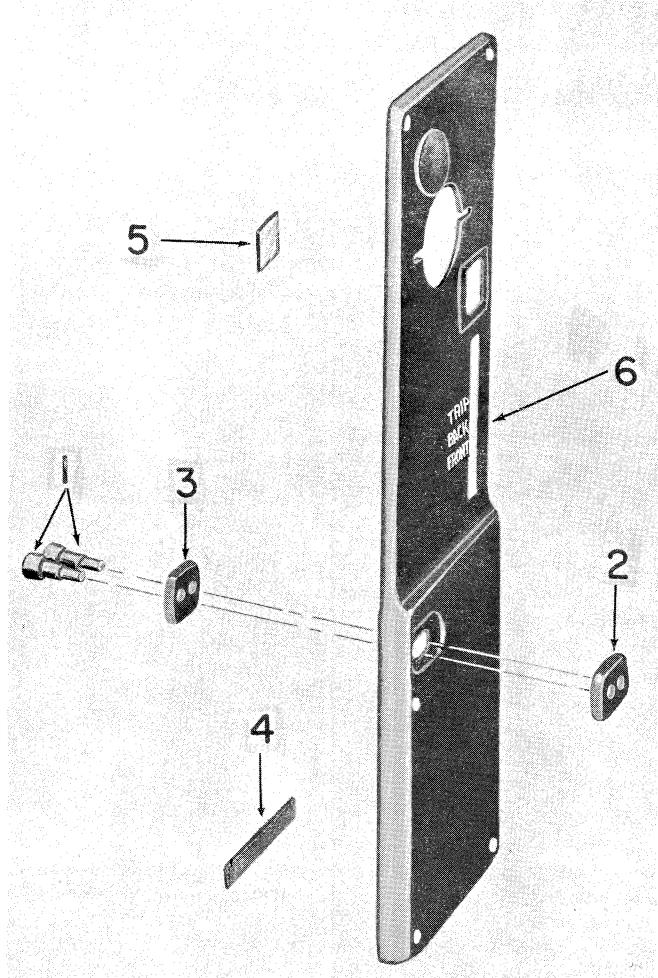
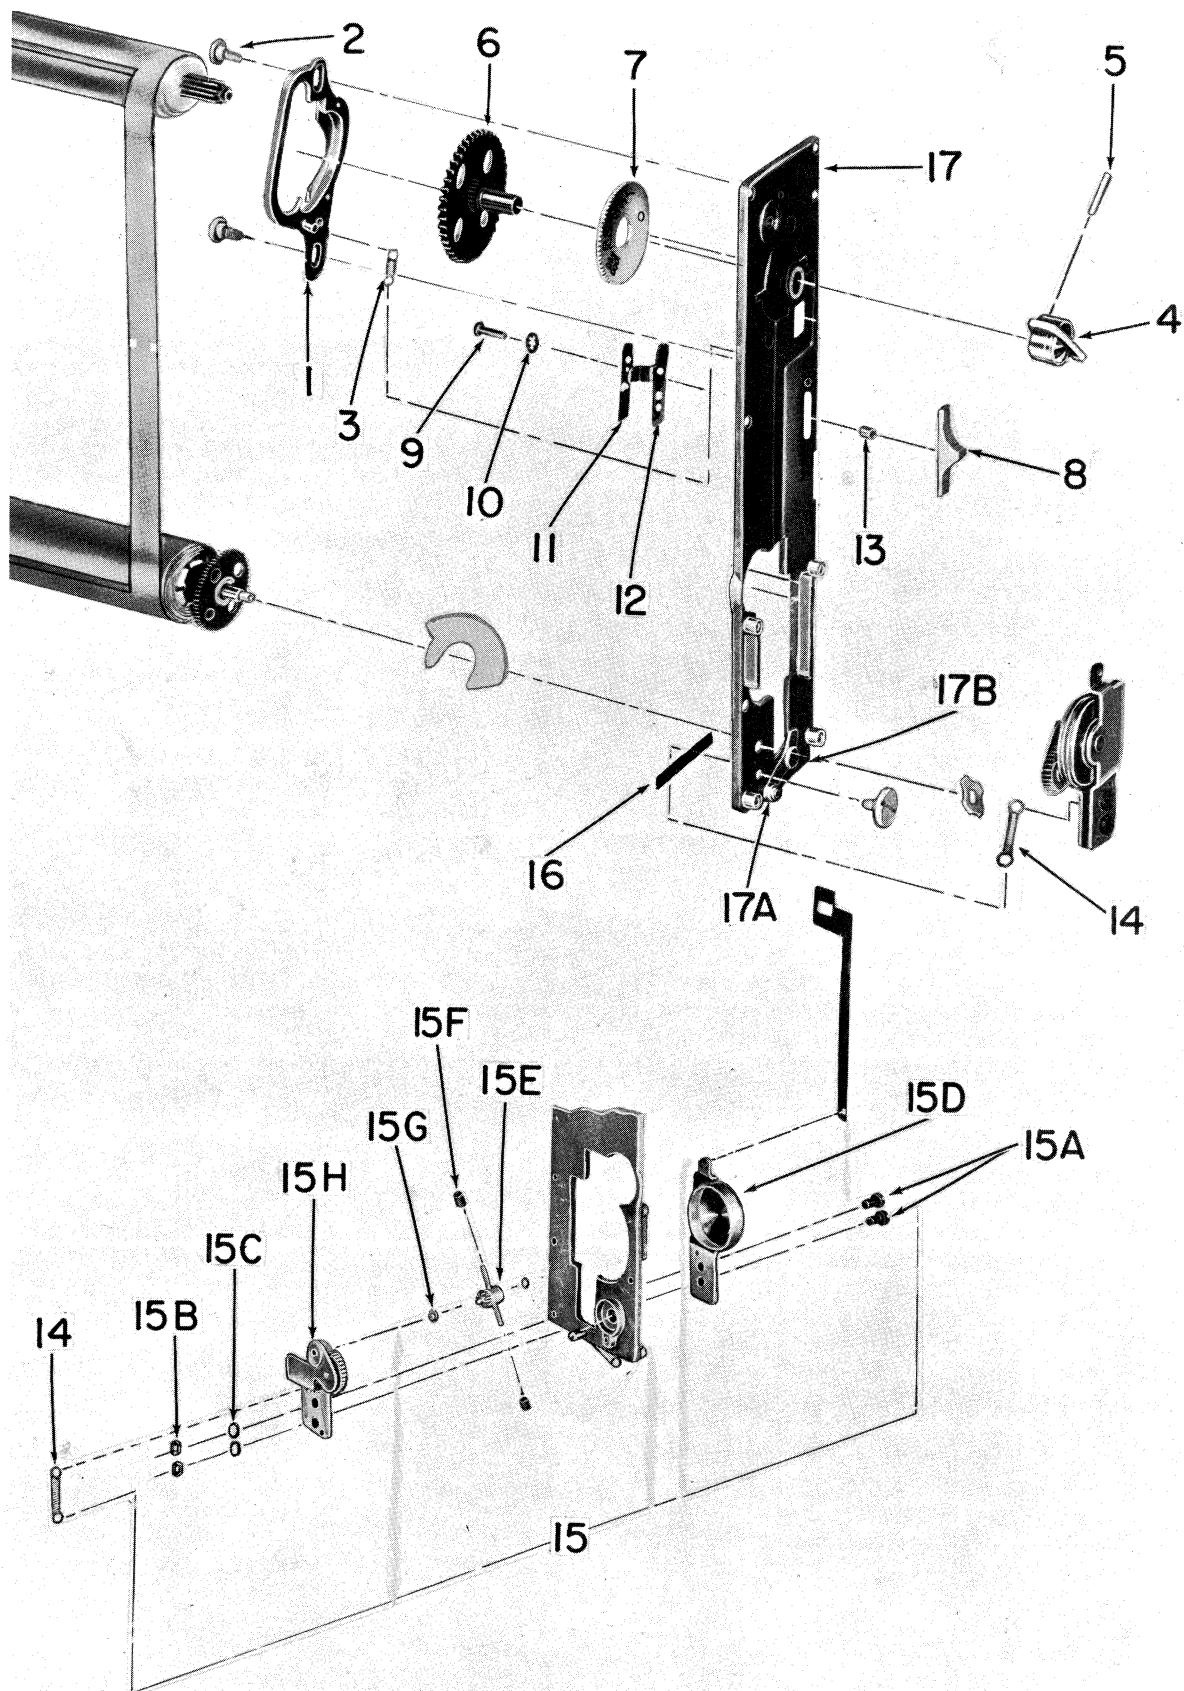

Figure 5. Shutter Plate Cover Assembly,
Figure 6. Shutter Mechanism Plate Assembly, Exploded View
tension shaft retainer (6). Swing the retard cam lever assembly (17A, figure 6) forward to raise the governor. Remove four wood screws (8, figure 2) and lift the shutter mechanism plate assembly (4) from the camera.
- (1) Escapement, Master Gear, Winding Key. The escapement (1, figure 6) is secured by two escapement screws (2). Remove and unhook the escapement spring (3). Remove the taper pin (5), the winding key assembly (4) and then the master gear assembly (6) from the inside. Lift the shutter dial (7) from the inside.
- (2) Shift Slide (8). To remove, unscrew the machine screw (9) and lock washer (10). Lift off the shift slide spring (11) and the shift side plate (12) and the shift slide spacer (13).
**Note:** Do not remove governor assembly (15) from the plate unless necessary.
- (3) Governor. Disconnect the governor spring (14). Remove two hexagonal machine screw nuts (15B), two lock washers (15C) and two dowel studs (15A). Lift the top bracket assembly (15D) from the governor pinion assembly (15E) and take particular care to note the washers (15G) that may or may not be used. Remove the governor shoes (15F) from the pinion assembly. The bottom bracket assembly (15H) can now be removed from the plate.
- (4) Lever Assembly. If the retard cam lever assembly (17A) has become bent or damaged, drill out the brass stud (17B), using a No. 50 (.070 inch dia.) drill.
(a) Tear out the tension roller seal (10), cemented around the lower tension roller gear. (This seal is no longer considered necessary and can be discarded since light seals (4, figure 5) and (16, figure 6) are sufficient protection.)
(4, figure 5) to remove dust and grit that may have collected.
Clean all parts of the shutter plate (figure 6) with solvent, trichlorethylene (AN-T-37a). Dry all parts thoroughly before reassembly. Check the springs (3 and 14); replace if stretched or deformed. Inspect the gears for worn teeth and loose stop pins.
4. Contacts. Check the height of the receptacle contact (27, figure 12) and the receptacle jumper (28). Both of these must be arched above the wood surface at least 3/16 inch so that they will make positive contact with the receptacle contact studs (1, figure 5). Check the curvature of the spring finger contact (13, figure 2); these contacts should be arched evenly not more than 5/32 inch above the block. If the short and long switch contacts (30 and 31, figure 12) are causing an electrical short, remove the body release plate assembly (34), paragraph VII. A. and replace the contacts.
If the governor assembly (15, figure 6) has been dismantled, lubricate by wiping the outside ends of the governor shoes (15F) and governor pinion assembly (15E) with graphite powder, AN-G-24. The governor shoes must slide freely on the cross shaft of the pinion assembly. Reassemble the governor as follows:
(c) Rotate the winding key until "0" appears squarely in the upper half of the speed shutter dial window (5, figure 5) when the upper master gear pin is stopped against the top step of the escapement (1, figure 6).
(d) With the bottom strut of the curtain 1/4 inch from the upper inside edge of the frame, position the shutter mechanism plate assembly (4, figure 2) over the pinion ends of the curtain rollers (9). The escapement actuating lever of the concealed body release plate must contact the bottom stud of the escapement assembly (6, figure 6) and the shutter selector shift side; the shutter selector lever of the concealed body release (located near the middle) must contact the bottom shift plate side (12, figure 6). The gear of the top roller meshes with the master gear assembly (6).